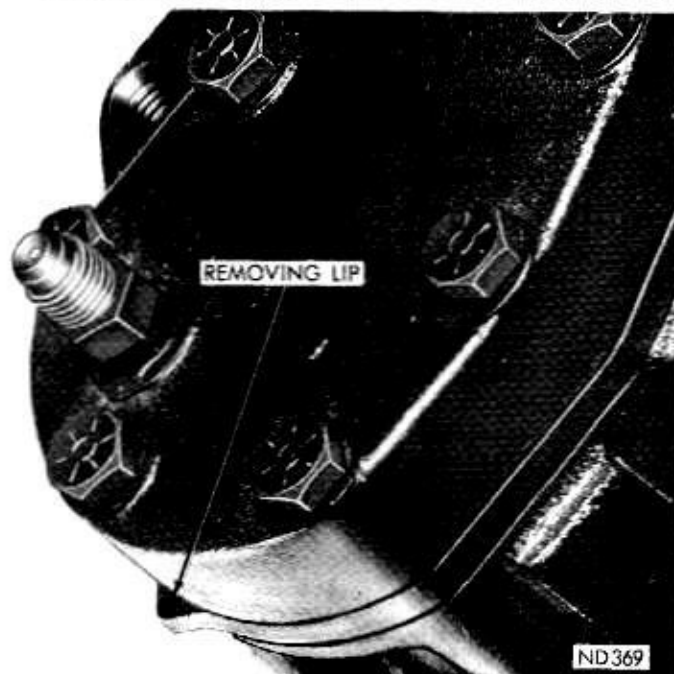

Fig. 8—Valve Plate and Head Removing Lip
(1) Remove the cylinder head bolts, head and valve plate assembly. If plate does not separate from head, tap the removing lip on the valve plate lightly with a plastic hammer (Fig. 8). Do not pry apart.